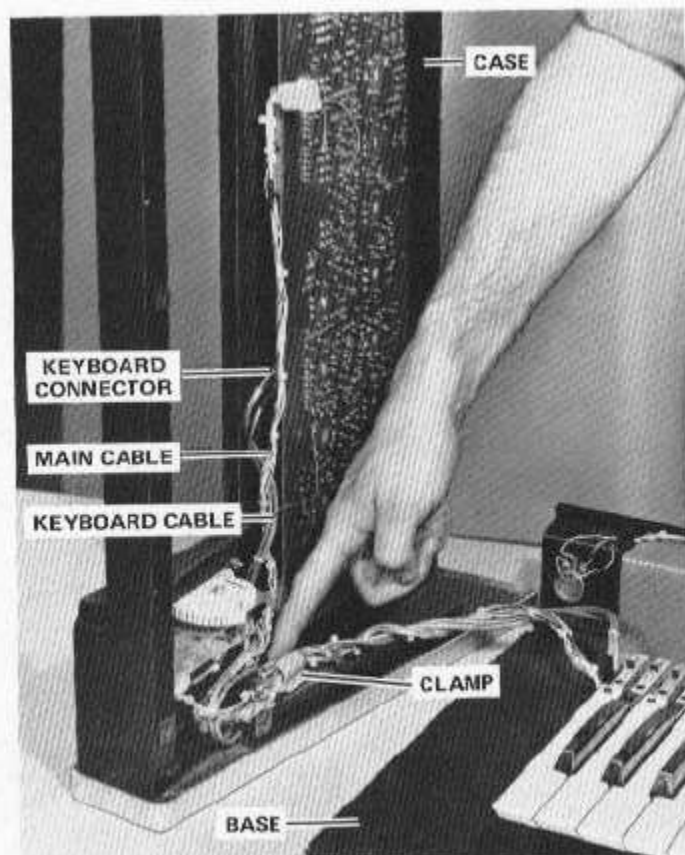
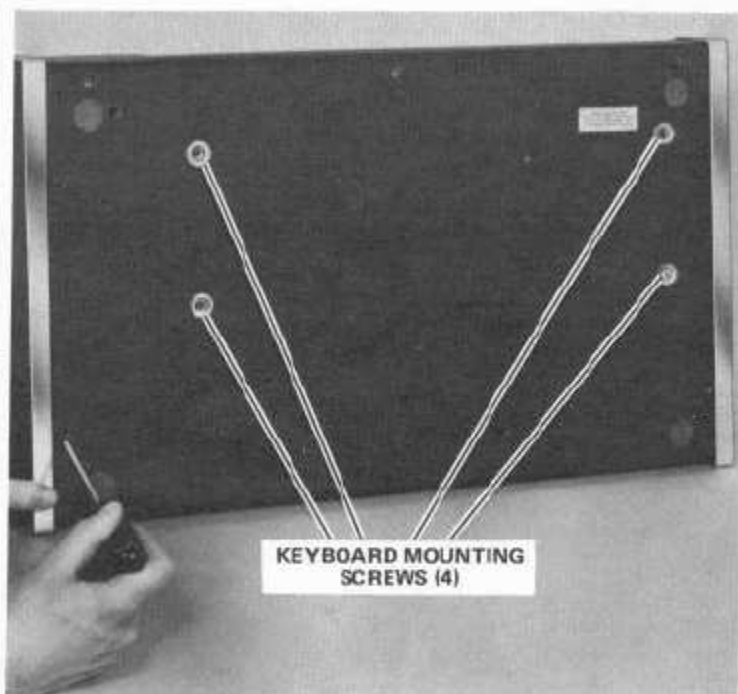

FIGURE 3-3 UNLOCKING CABLE CLAMP
FIGURE 3-8. KEYBOARD MOUNTING
b) Depress top of clamp firmly to release the main cable. Carefully note the portion of the cable that the clamp holds. Releasing the cable makes the case and base parts much simpler to reach for servicing. (See Figure 3-3)
a) To remove keyboard, take out the four mounting screws (see Figure 3-8). The keyboard cable wraps around the main cable and can be separately removed by unplugging the keyboard connector from the main PC board (see Figure 3-3). Once the keyboard cable is unwound, the connector may be plugged in again and the keyboard may be placed on the table and played in a normal fashion.
b) Note that cup washers (904-040948-006) were not used on early units. They should be routinely installed on all units. (See Figure 3-8)